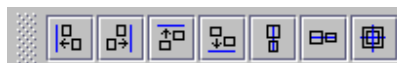

Figure 26 : Alignment tool bar
- ◆ Alignment tool bar (Figure 26) : it gives access to the alignment commands between components or equipments in an architecture :